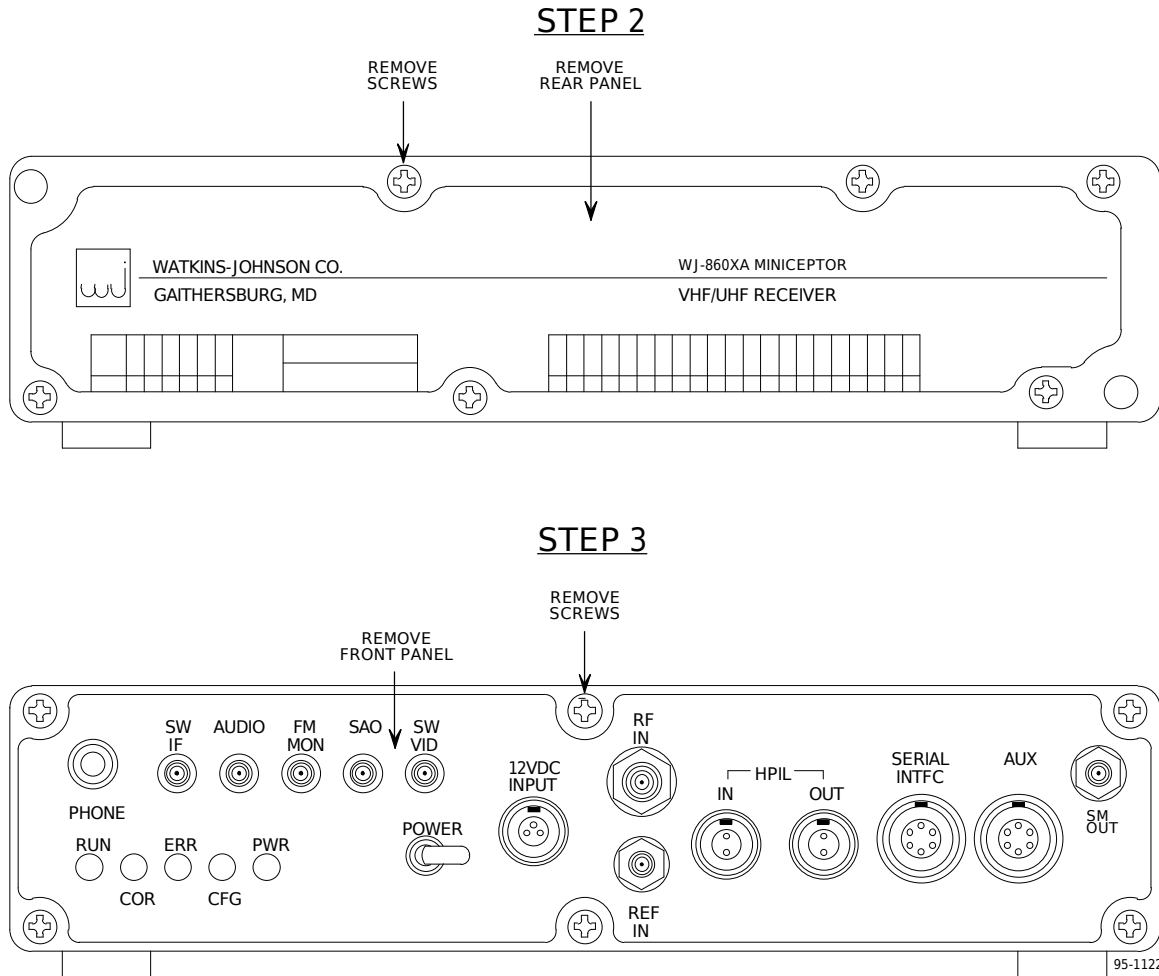

Figure C-1. Removing the Miniceptor's Front and Rear Panels
2. Referring to **Figure C-1**, remove six screws to detach the rear panel of the Miniceptor.